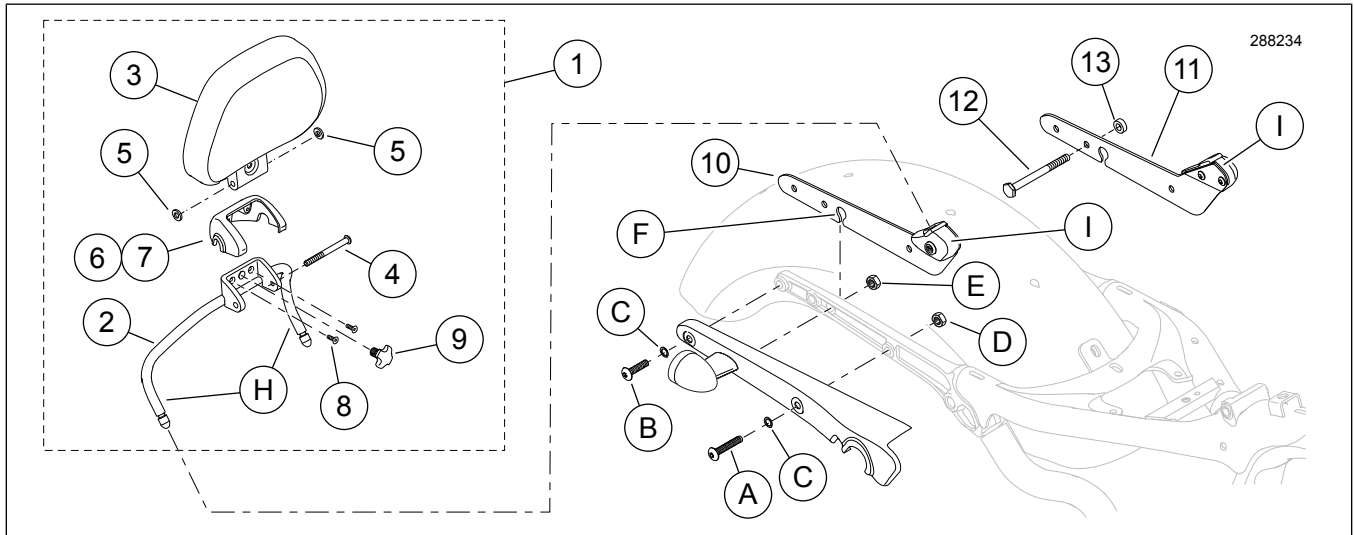

Figure 1. Kit Contents: XL Detachable Rider Backrest
2. See Figure 1. Remove forward fender support cover screw (A), washer (C) and nut (D) from one side of vehicle.
3. Remove rear fender support cover screw (B) and washer (C) on same side.
4. Loosen, but do not completely remove the nut (E) from the turn signal screw inside the fender.
- b. Replace with hex head screw (12) and spacer (13) from kit.